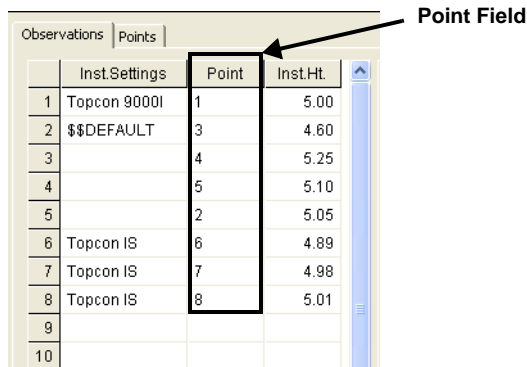
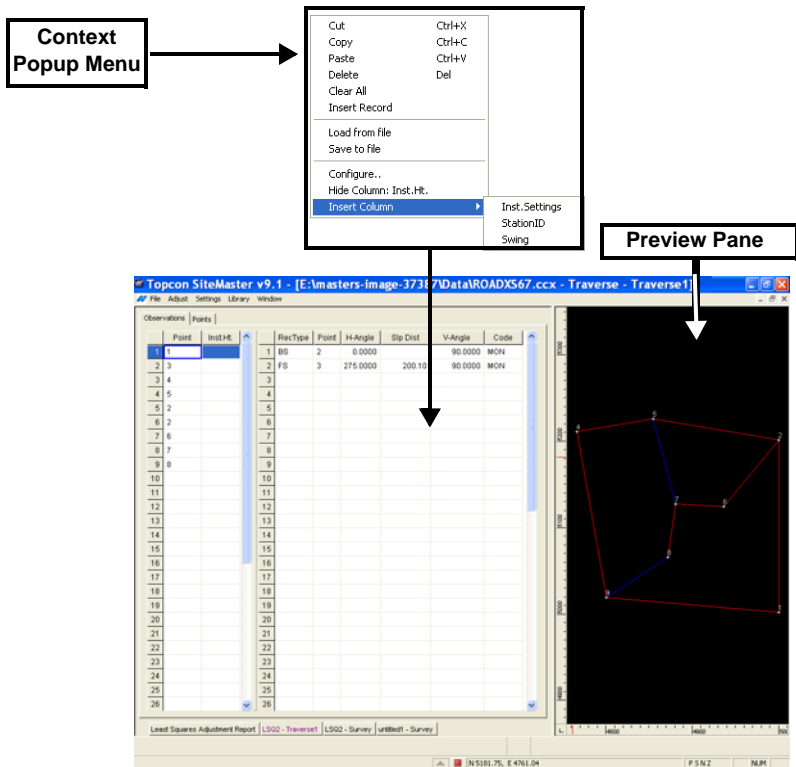
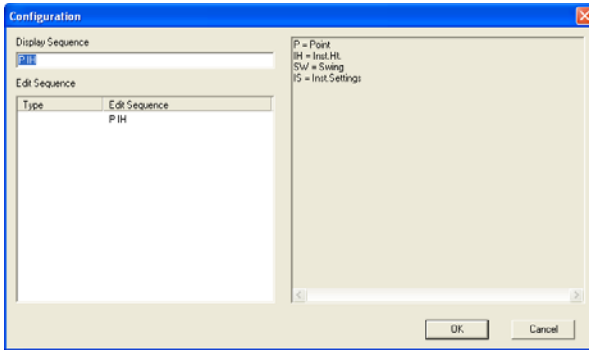

Figure 12-36. Example – Occupied Point Field with Specified Instrument Settings
Figure 12-37. Context Pop-up Menu on the Data Editor Dialog Box
Figure 12-38. Configuration Parameters
Figure 12-36 below shows an example of an *Occupied Point Field* specifying instrument settings.
The *Point* field is configurable for content and order of data entry and edit (Figure 12-36). To define the content for entry, press and hold the mouse, then right-click to display the **Context** popup menu (Figure 12-37 on page 12-35).
Enter parameters in the **Display Sequence** field from the **Configuration** dialog box (Figure 12-37). However, it is easy to drag and drop the headers to their desired location using the Hide Columns/Insert Columns commands on the Context pop-up menu.
- Specify the editing sequence of any element (type) by using the **Configure** menu option (Figure 12-38 on page 12-36) on the Context pop-up menu (Figure 12-37) and then selecting any option under the **Edit Sequence** panel.